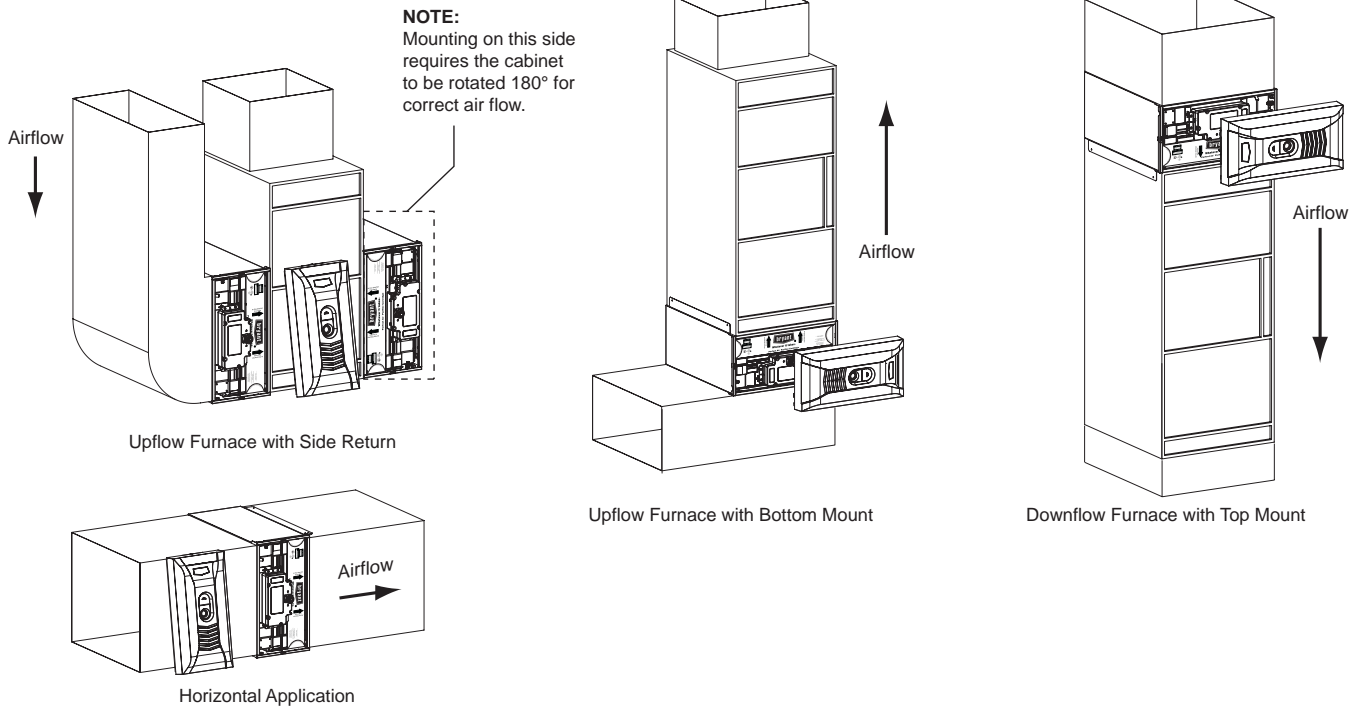

Fig. 3 - Perfect Air™ Purifier Cabinet Orientation
- a. Identify a mounting orientation for the Perfect Air™ Purifier in the return air duct (see Fig. 3).